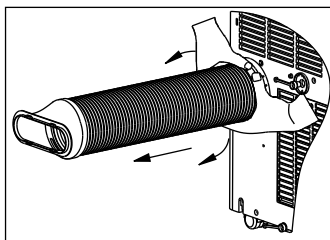

Fig.25
- Unscrew the exhaust hose and pull out for uninstallation(Fig.25).